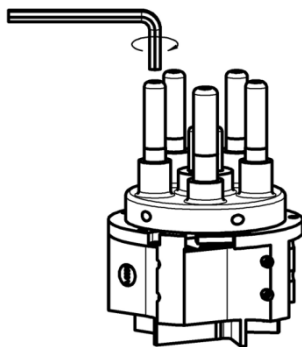

Fig. 72: Loosening the contact pin
1. Use a size 8 Allen key to loosen and remove the contact pin from its holder (Fig. 72).